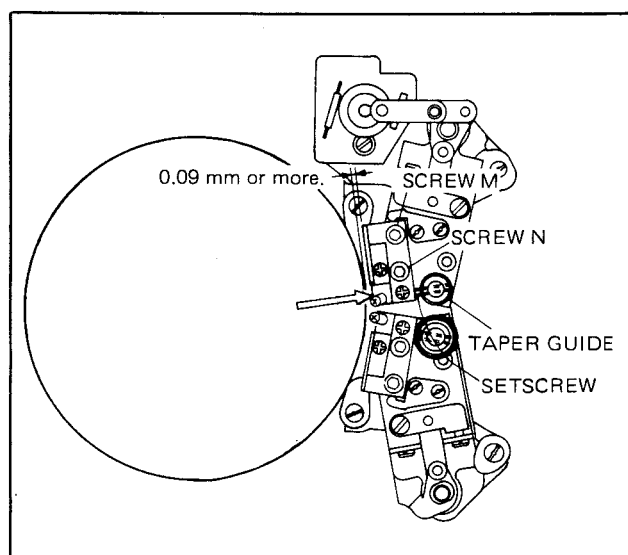

Fig. 10-28. Overlap C Adjustment
1. Loosen screw N shown in Fig. 10-28 1/2 to 1 turn.